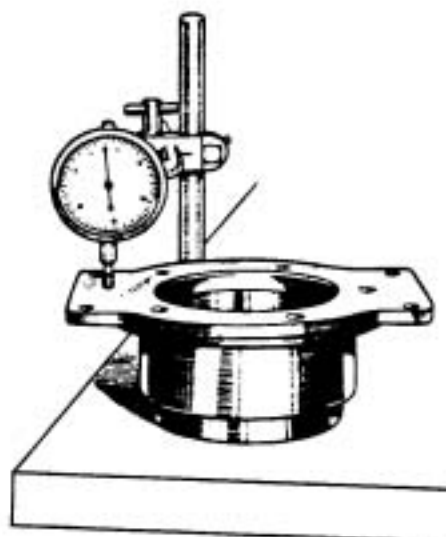

FIG. 2. CLOCKING TOP FACE OF SPIGOT PLATE.
- Place the sub-assembly on a surface plate with the spigot plate uppermost and clock the top face of the spigot plate (See Fig.2). Fit a new adjusting piece (RG-3181), bolt up as before, and again clock the face of the spigot plate. An amount equal to the difference in clock readings should then be ground off the adjusting piece. The aim is to obtain zero nip on the bearing, but a nip NOT EXCEEDING .002" (.05 m/m) is permissible.